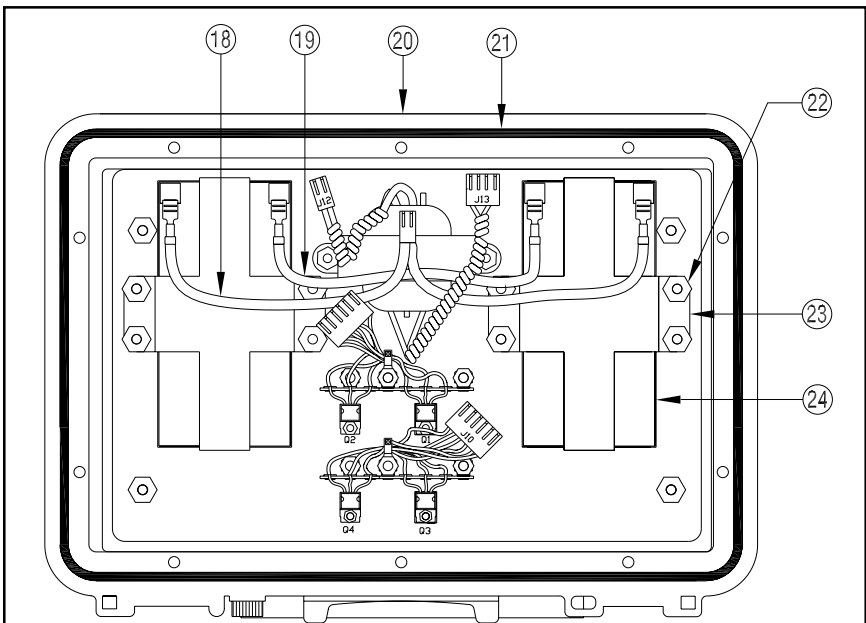

Figure 2. Battery Compartment Layout
4. Remove the battery jumper (Fig. 2, #19) and the interconnection cable (#18) from the batteries.
5. Remove all the hex nuts (Fig. 2, #22) from the battery brackets.
6. Remove the battery bracket (Fig. 2, #23) from the batteries.
7. Remove the batteries (Fig. 2, #24).
10. Connect one end of the battery jumper (Fig. 2, #19) to a terminal marked
12. Connect one end of the interconnection cable (Fig. 2, #18) to the remaining black and red terminals.
14. Check the o-ring (Fig. 2, #21) on the inside of the housing for debris or damage. Replace it if necessary.
4. Remove any debris from the o-ring located on the inside of the cover (Fig. 2, #21).